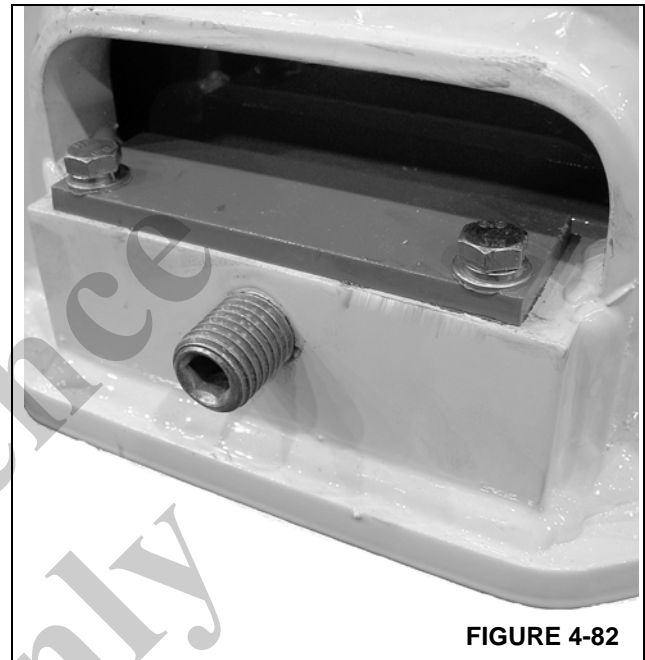

FIGURE 4-82
3. Install brass wear pad thru base access hole in side of the Base section and slide Inner Mid section past wear pad and install lock plate (Figure 4-82).